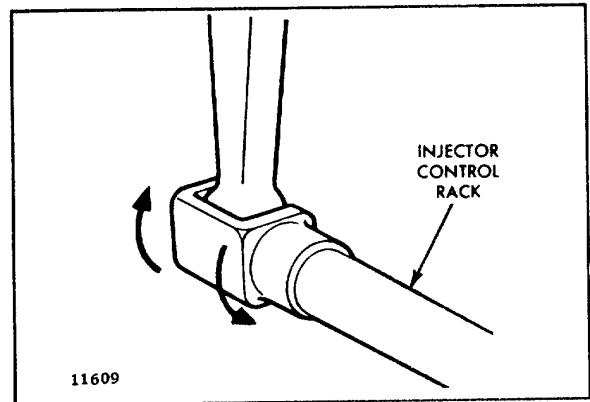
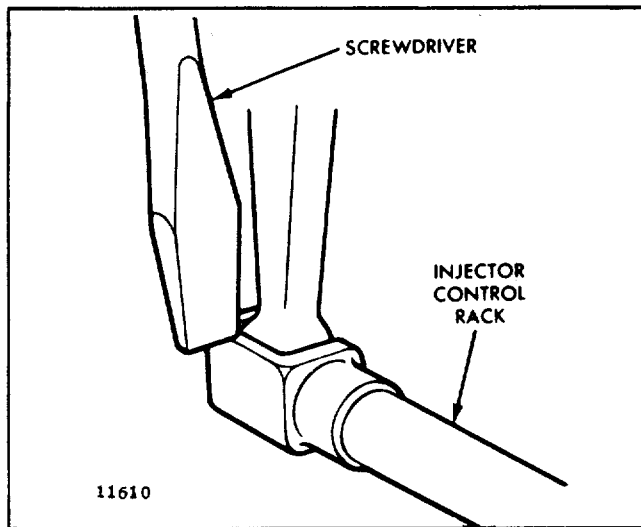

Fig. 3. - Checking Rotating Movement of Injector Control Rack
Fig. 4. - Checking Injector Control Rack "Spring"
5. To be sure of the proper rack adjustment, hold the stop lever in the run position and press down on the injector rack with a screwdriver or finger tip and note "rotating" movement of the injector control rack when the stop lever is in the run position (Fig. 3). Hold the stop lever in the run position and, using a screwdriver, press downward on the injector control rack. The rack should tilt downward and, when the pressure of the screwdriver is released, the control rack should "spring" back upward (Fig. 4).